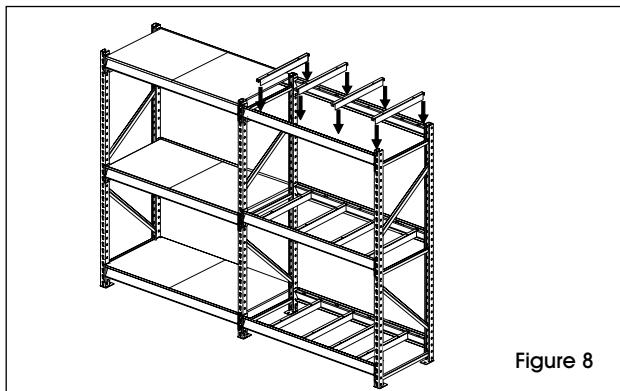

Figure 8
10. Attach shelf supports to the beam by inserting the flanges into the shelf beam slots. (See Figure 8)